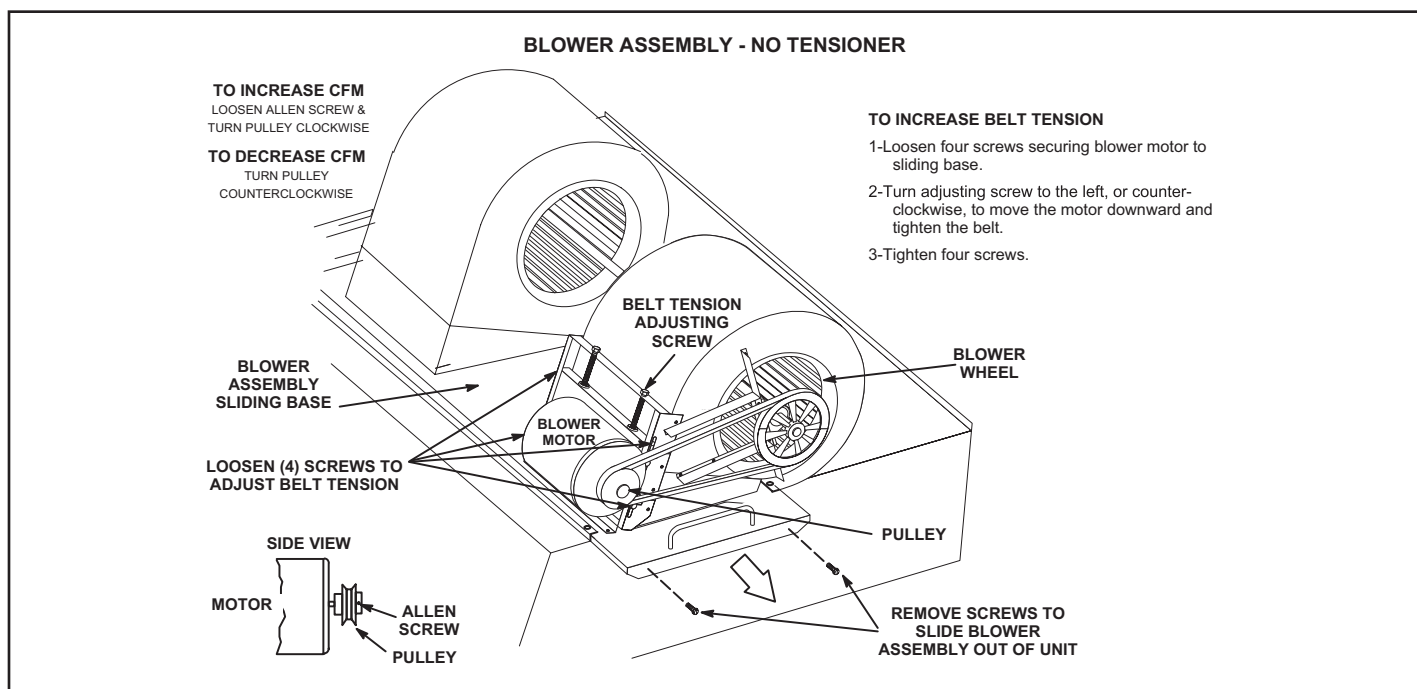

FIGURE 14
The blower compartment is located between the evaporator coil and the compressor / control section on the opposite side of the condenser coil. The blower assembly is accessed by disconnecting the blower motor wiring (and all other plugs) and removing the screws on either side of the sliding base. The base pulls out as shown in FIGURE 14.
2. Remove screws on either side of blower assembly sliding base. See FIGURE 14.
4. The blower RPM can be adjusted at the motor pulley. Loosen Allen screw and turn adjustable pulley clockwise to increase CFM. Turn counterclockwise to decrease CFM. See FIGURE 14. Do not exceed minimum and maximum number of pulley turns as shown in TABLE 5.
1. Loosen four screws securing blower motor to sliding base. See FIGURE 14.